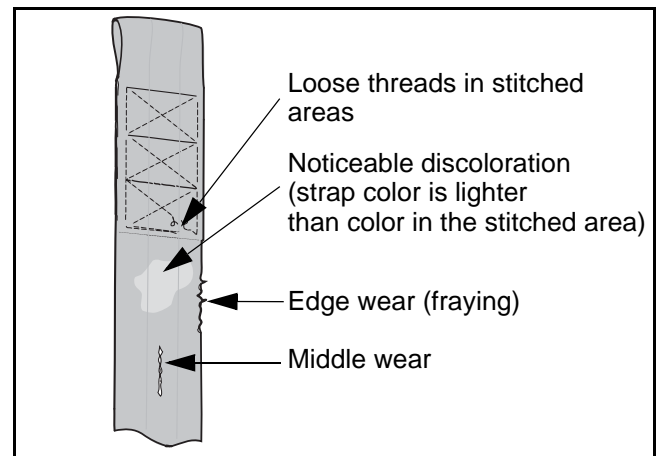

Fig. 21
- 2) Look for any signs of wear or discoloration (see Fig. 21).